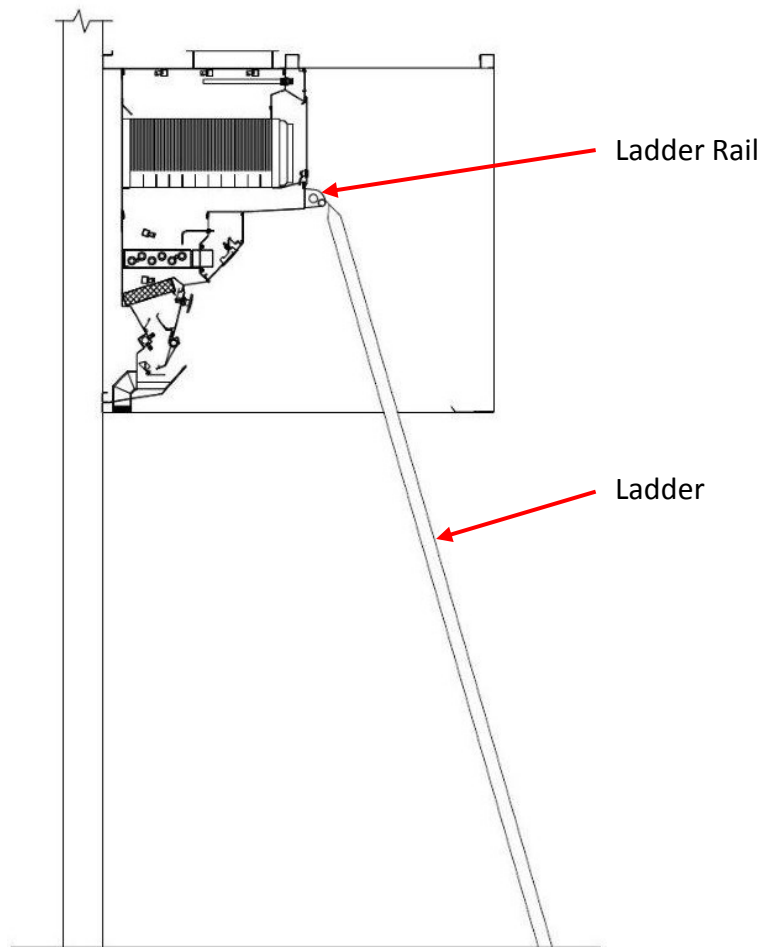

Figure 4-47-1
4. Position the ladder at one end of the Ventilator and hook onto the Ladder Rail with the hooks at the top of the ladder (Refer to Figure 4-47-1 and 4-48-1). **Extreme Caution: Double check to make sure the ladder is properly hooked to the Ladder Rail.**